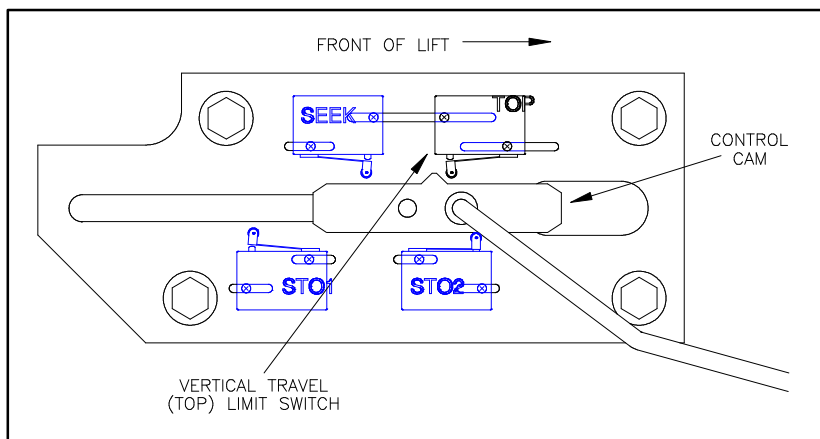

FIGURE 2-5: LIMIT SWITCH (TOP) LOCATION
- b. Refer to **Figure 2-5**. Loosen the two mounting screws on the switch labeled TOP.